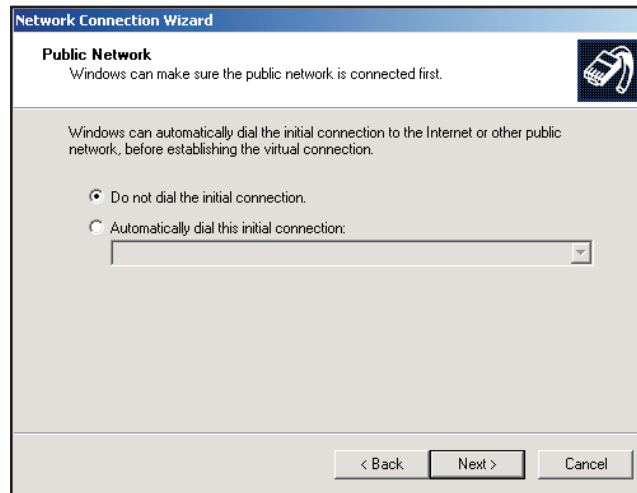

Figure 187 Connecting to the Public Network
6. Select *Do Not Dial the Initial Connection* as shown in Figure 187. Click **Next**.